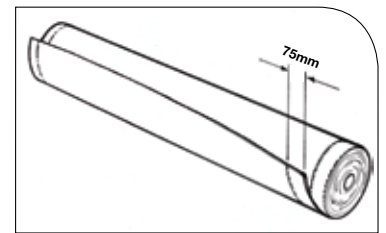

FIGURE 10 SUPERGROOVE®
7.1 GCL seams are constructed by overlapping adjacent panel edges and ends. Care should be taken to ensure that the overlap zone is not contaminated with loose soil or other debris. Supplemental bentonite is not required for Claymax 200R, Bentomat ST, DN, and SDN with Supergroove® have self-seaming capabilities in their longitudinal overlaps (Figure 10) and do not require supplemental bentonite. For pond applications, supplemental bentonite must be used in longitudinal seams regardless of the CETCO GCL used.